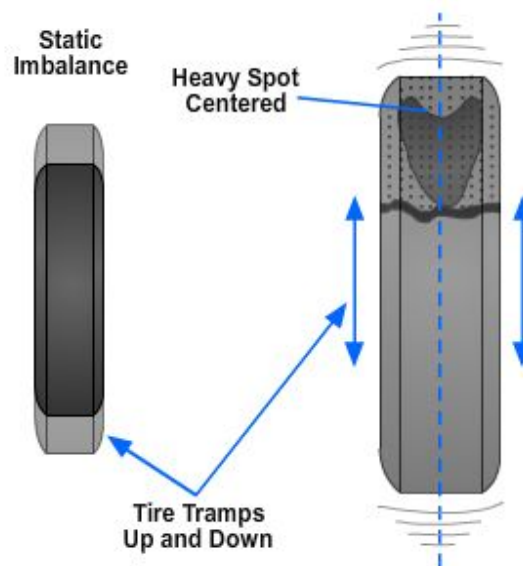

Figure 14-40 — Static imbalance.
- Static imbalance (*Figure 14-40*), also called wheel tramp or hop, lies in the plane of wheel rotation, which causes the tire to vibrate up and down. For a wheel and tire assembly to be in static balance, the weight must be evenly distributed around the axis of rotation.